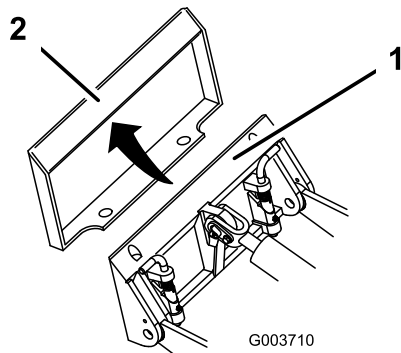

Figure 13
4. Position mount plate into the upper lip of the attachment receiver plate (Figure 13).